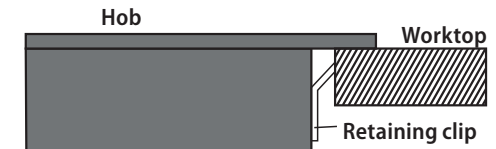

Fig. 10
- Secure the hob in the required position from the bottom to the worktop with the supplied retaining clips (Fig. 10).